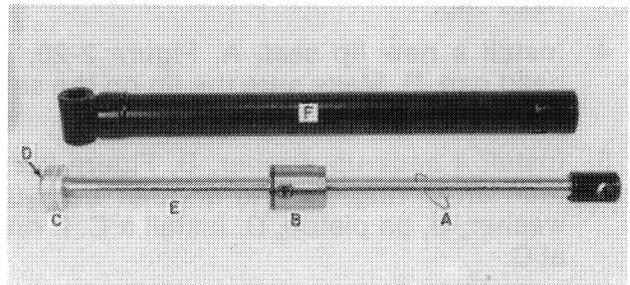
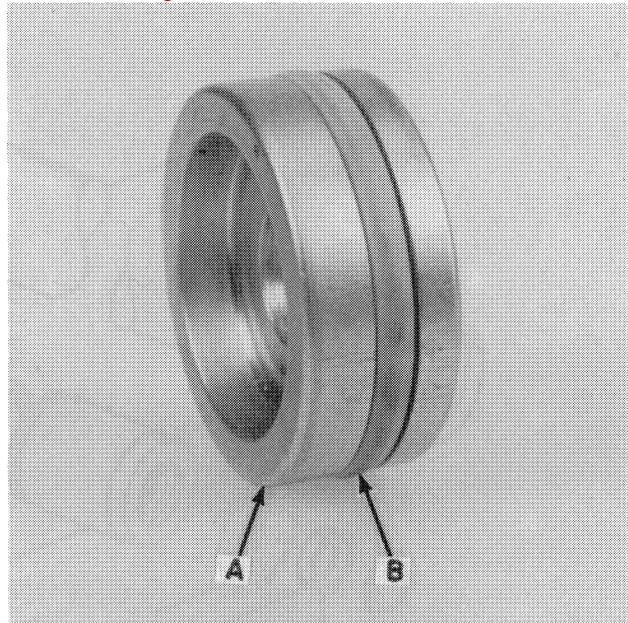

FIGURE 2-24
FIGURE 2-27
3. Pull the piston assembly from the barrel as shown in Figure 2-24. Figure 2-24 shows retaining ring, A; head, B; piston, C; nut, D; piston shaft, E; and cylinder barrel, F.
4. Install piston seal, I, Figure 2-25, and B, Figure 2-27, on the piston.
5. Slide head, B, Figure 2-24, on the piston rod, E. Put Loctite hydraulic sealant around the base of the piston, C, and install it with the recessed side, A, Figure 2-27, next to nut, D, Figure 2-24.